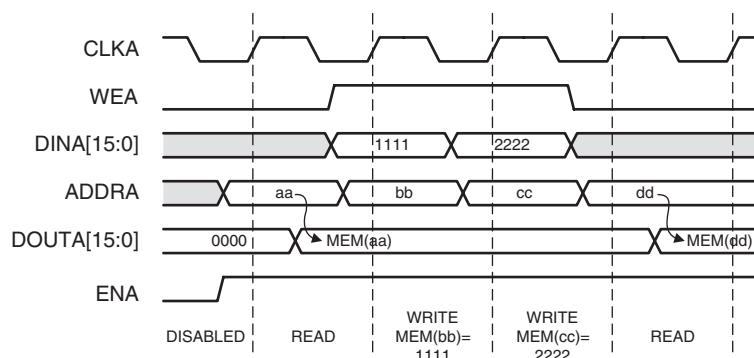

Figure 10: No Change Mode Example
- **No Change Mode:** In NO\_CHANGE mode, the output latches remain unchanged during a write operation. As shown in Figure 10, the data output is still the previous read data and is unaffected by a write operation on the same port.